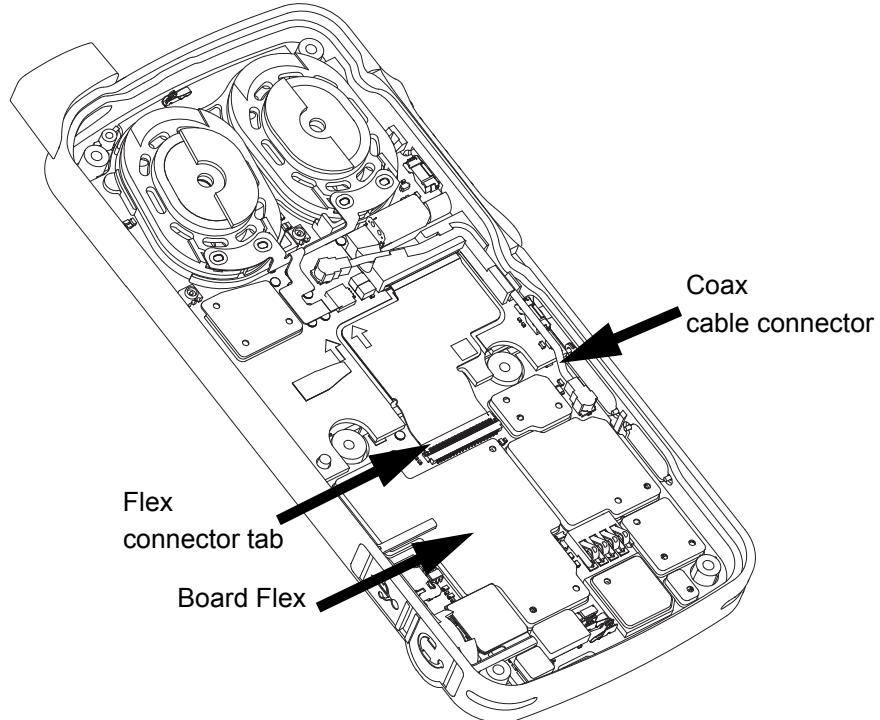

Figure 5-10. Board flex and coax cable connector disassembly
1. Unplug the board flex cable and coax cable connector from the main board. To remove the board to board flex, unlatch the flex connector tab as shown in Figure 5-10.